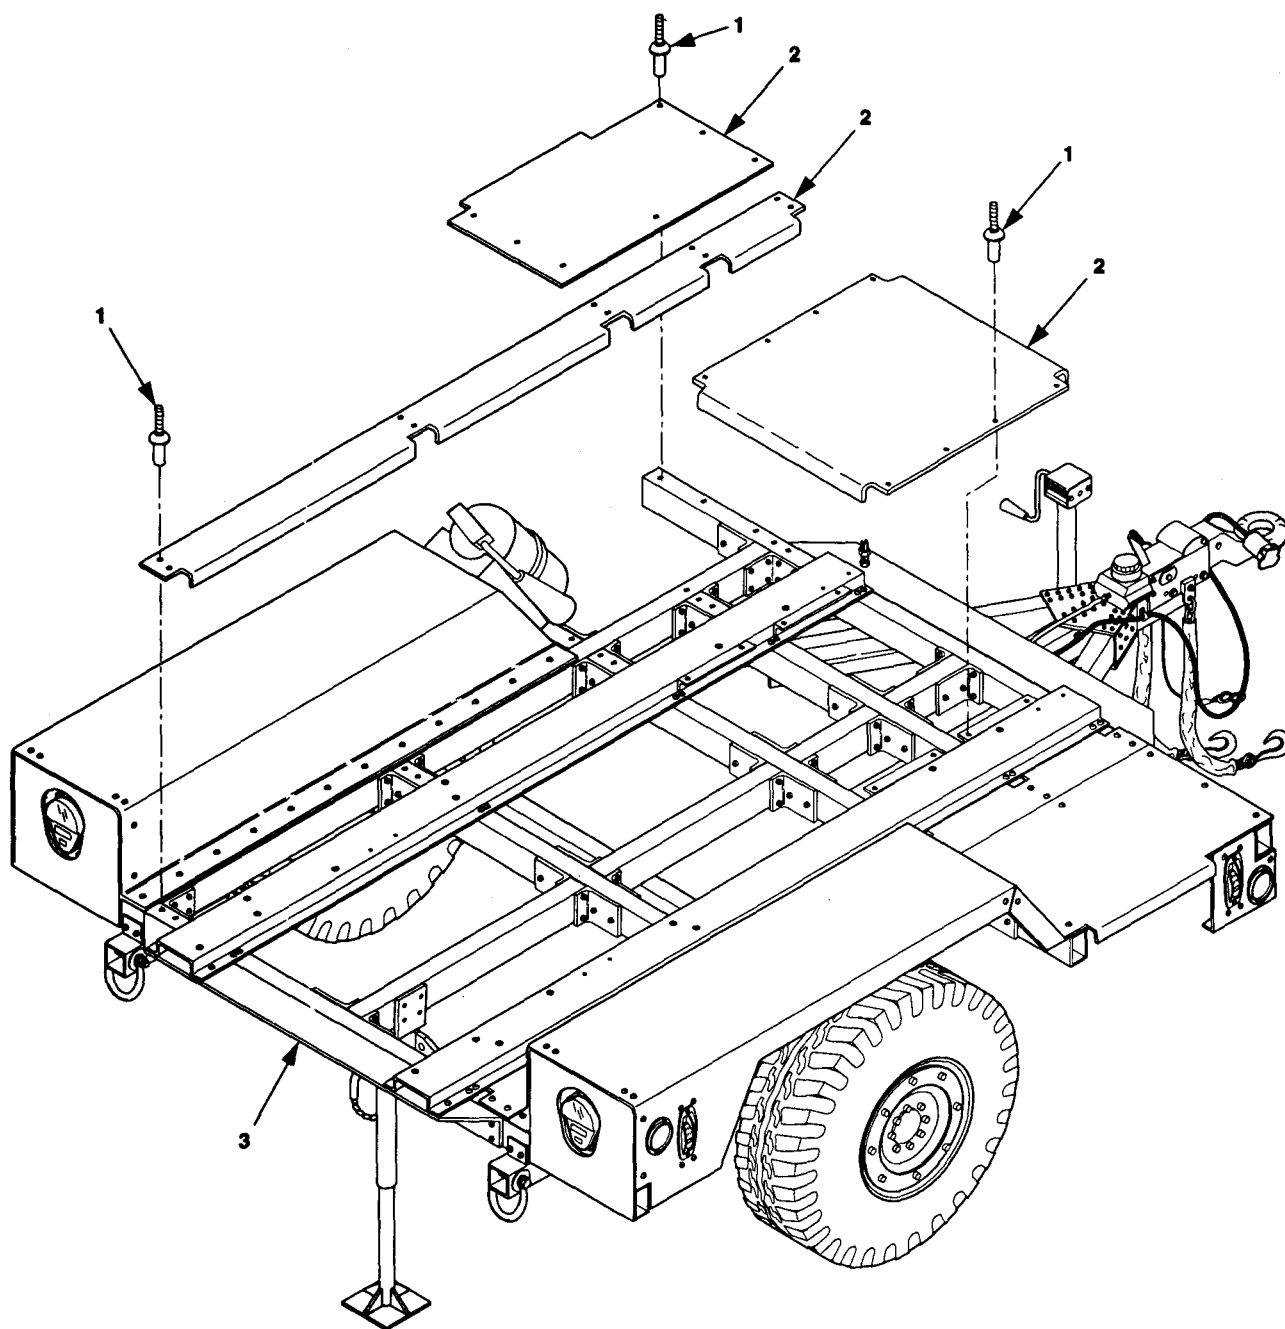

Figure 5-19. PU-801A Floor Replacement.
Remove rivets (1, figure 5-19) and floor sections (2) from trailer chassis (3)
Place floor section (2, figure 5-19) on trailer chassis (3) and secure with rivets (1)